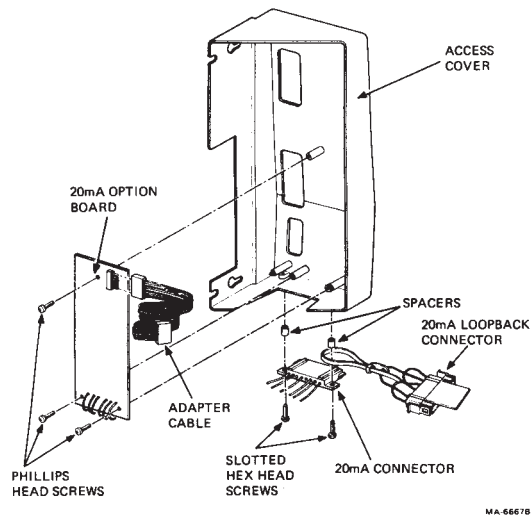

Figure 5-2 20 mA Current Loop Option Installation
2. Install the 20 mA current loop option board on the access cover with the three Phillips head screws provided (Figure 5-2).
3. Install the 20 mA connector to the bottom of the access cover with the two spacers and hex head screws provided (Figure 5-2).